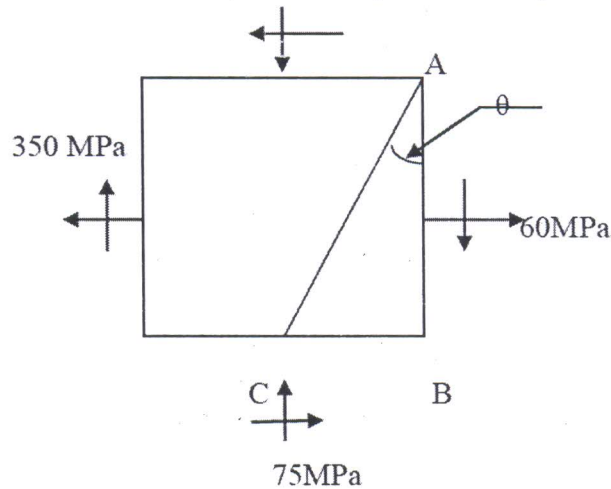

Fig.5
b) At a point in a strained material, stress pattern is as shown in **fig 5**. Determine [10]